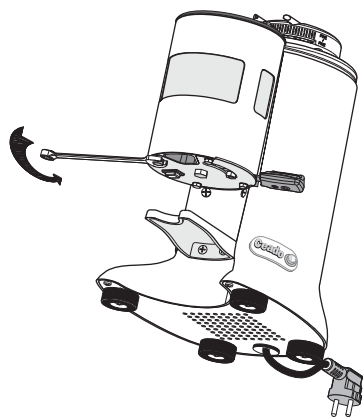

Fig. 9
- 1** Loosen the screw at the bottom of the doser as shown in Fig. 9 with a no. 10 wrench.